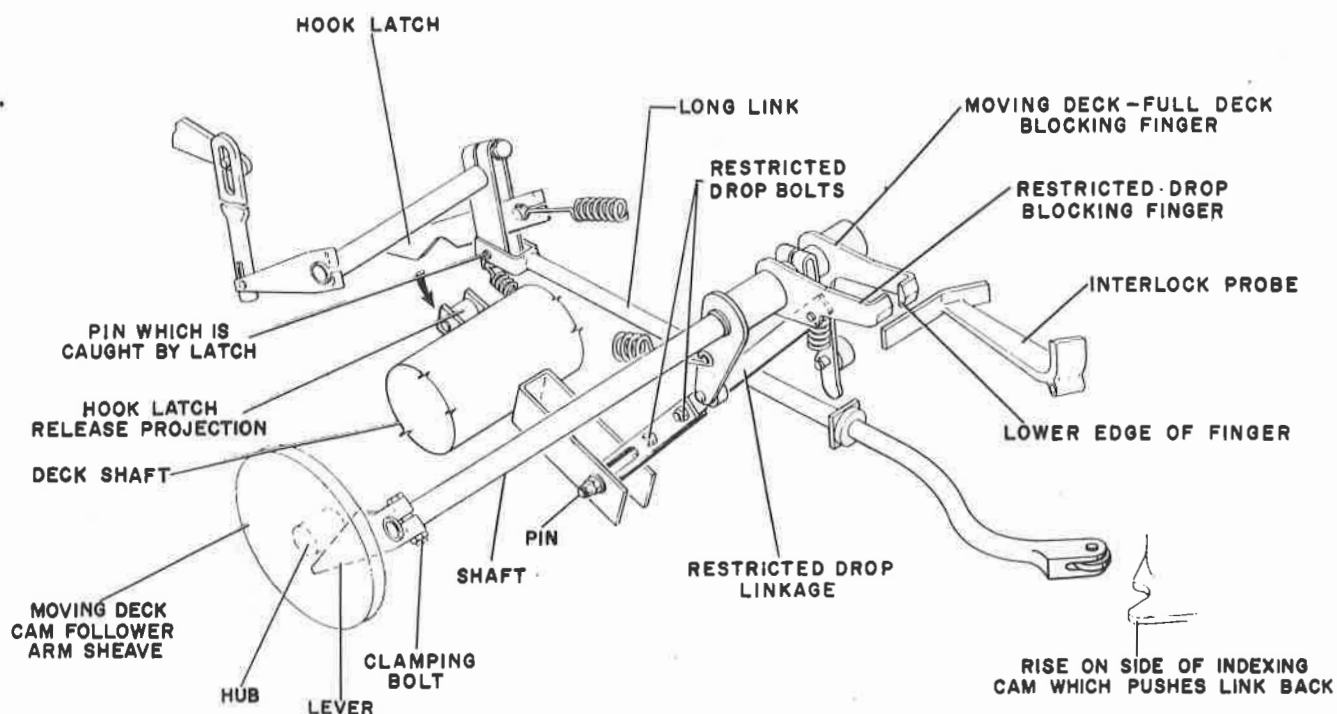

Figure 95. Interlock Adjustments
43. RESTRICTED DROP INTERLOCK ADJUSTMENT. (FIGURE 95)
44. TURRET INTERLOCK ADJUSTMENT. (FIGURE 95)